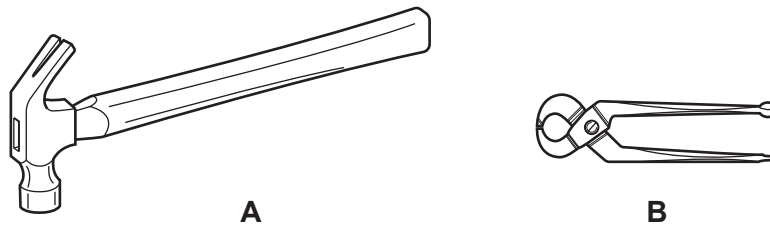

Fig. 4.1
- 4 Fig. 4.1 shows two tools, **A** and **B**, that are used to remove nails from wood.